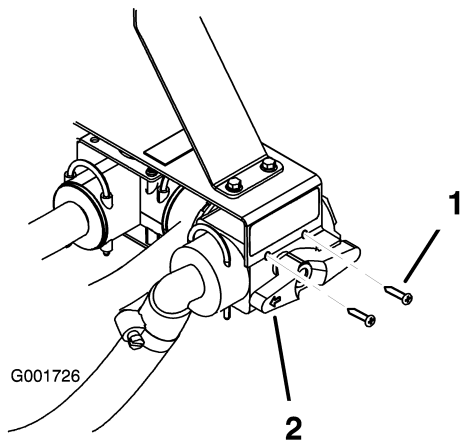

Figure 12
9. Secure the new control valve to the bracket using two screws (Figure 12).